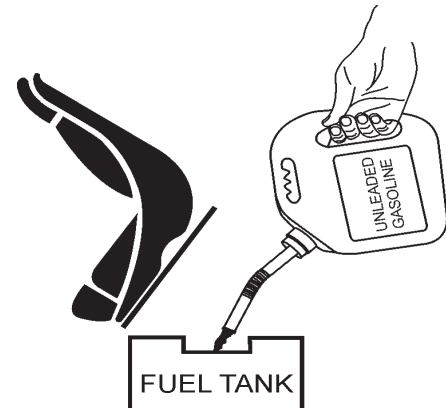

Figure 12. Adding Fuel
5. Pay attention to the fuel tank capacity when replenishing fuel (Figure 12). Refer to the fuel tank capacity listed on page 13, AR-13H Roller Specification Table 1.